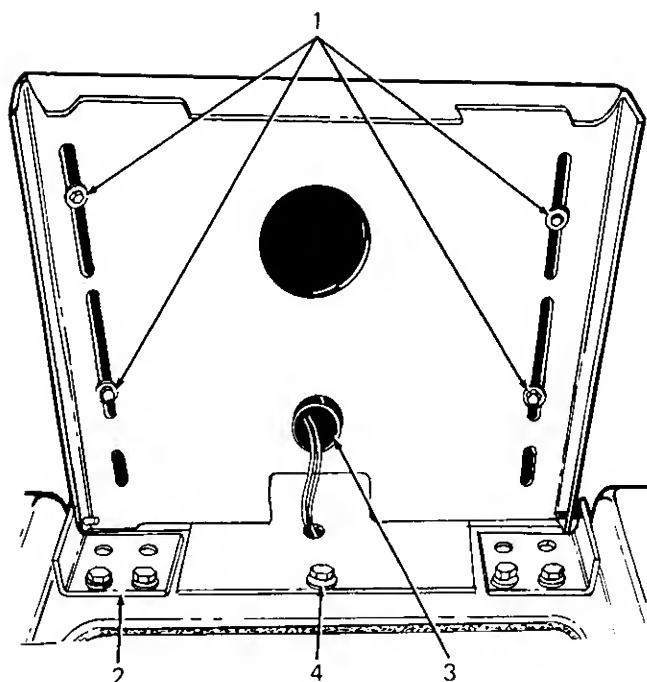

Figure 17.
Before starting the tractor, adjust the seat to the most comfortable driving position. Tilt the seat forward over the steering wheel, loosen the four cap screws in the seat support, and slide the seat assembly forward or rearward to the position which is most comfortable for the operator. (See Figure 17.)
2. Remove screw and flat washer from frame cover as shown in Figure 17.